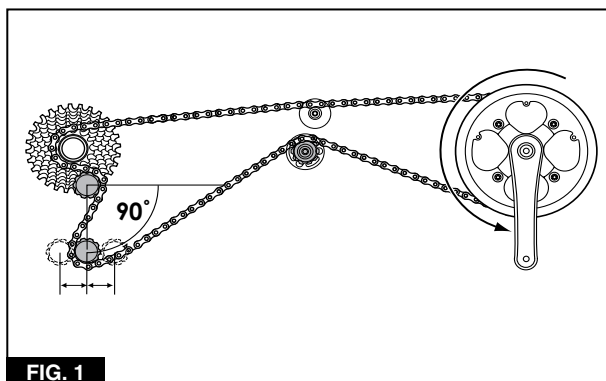

FIG. 1
a. The chain length is perfect if this line is perpendicular (90 degrees) to the ground (**Figure 1**).